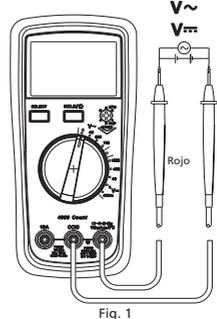

Fig. 1
1. AC/DC VOLTAGE MEASUREMENT (see la fig. 1)